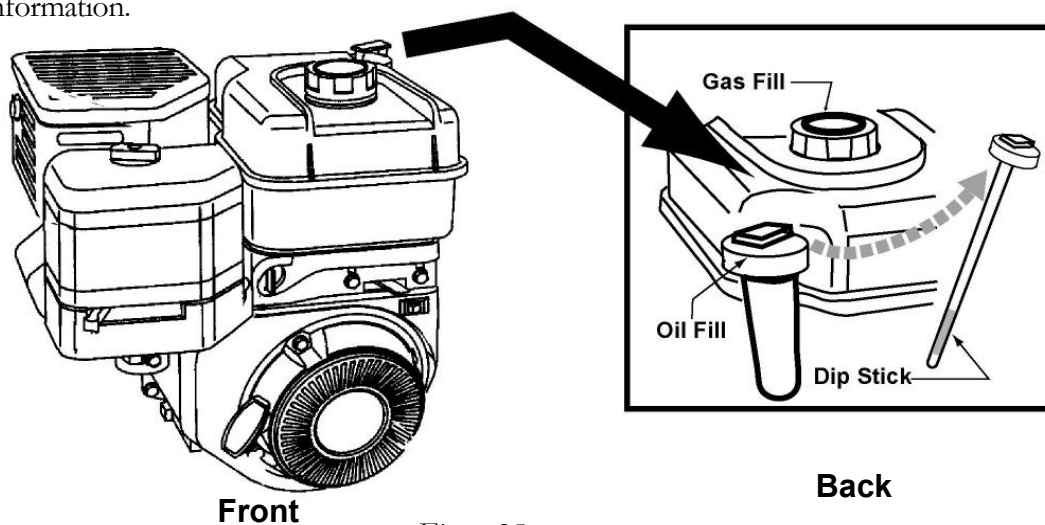

Figure 25
1. Place the machine on a level surface and initially add 16 oz. (½ quart) of SAE 30 oil, recommended by the engine manufacturer, and wait one minute for the oil to settle (*Figure 25*).
2. Check the dipstick and continue adding a few ounces of oil at a time, rechecking the dipstick until the oil reaches the fill mark. Be careful not to overfill. (*Figure 25*)
2. Check the engine oil level every time you use the machine (see *Figure 25* on page 23).
3. Check the gasoline level (see *Figure 25*).